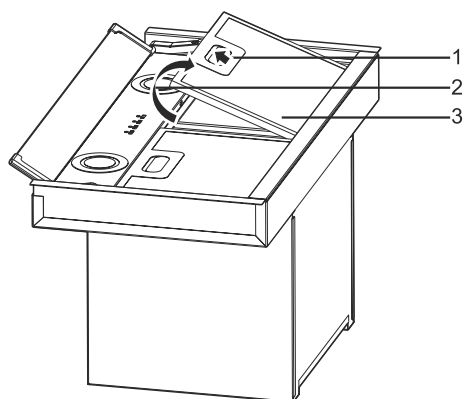

Fig. 10
1. → Remove the appliance package and place the aluminium filters facing upwards. (Fig. 10).
Press the aluminium filter latch (Fig. 10/1) and pull upwards (Fig. 10/2) to remove.